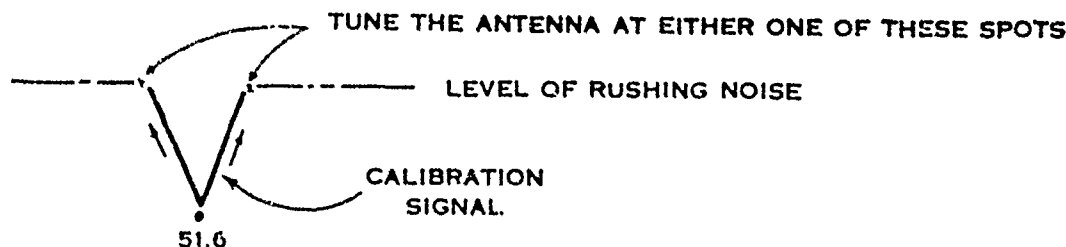

Figure 4-29. Antenna Tuning, Auxiliary Receiver.
(2) Auxiliary Receiver R-110/GRC.
- (c) Hold the DIAL LIGHT-TUNE switch in the TUNE position, and tune off the calibrate frequency until the beat note can no longer be heard, but so that the quieting effect of the tuning signal is still apparent (Fig. 4-29).